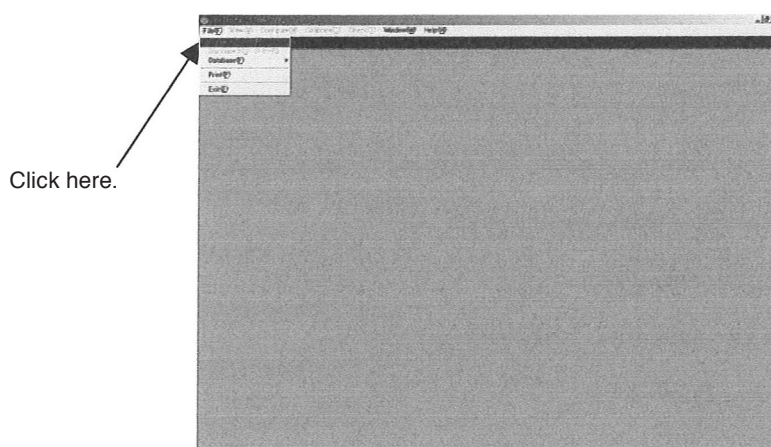

Fig.7
- ⑤ On seeing the screen like the one shown in Fig. 7, click "Connect (C) F3" in "File (F)" at the top-level menu of screen.